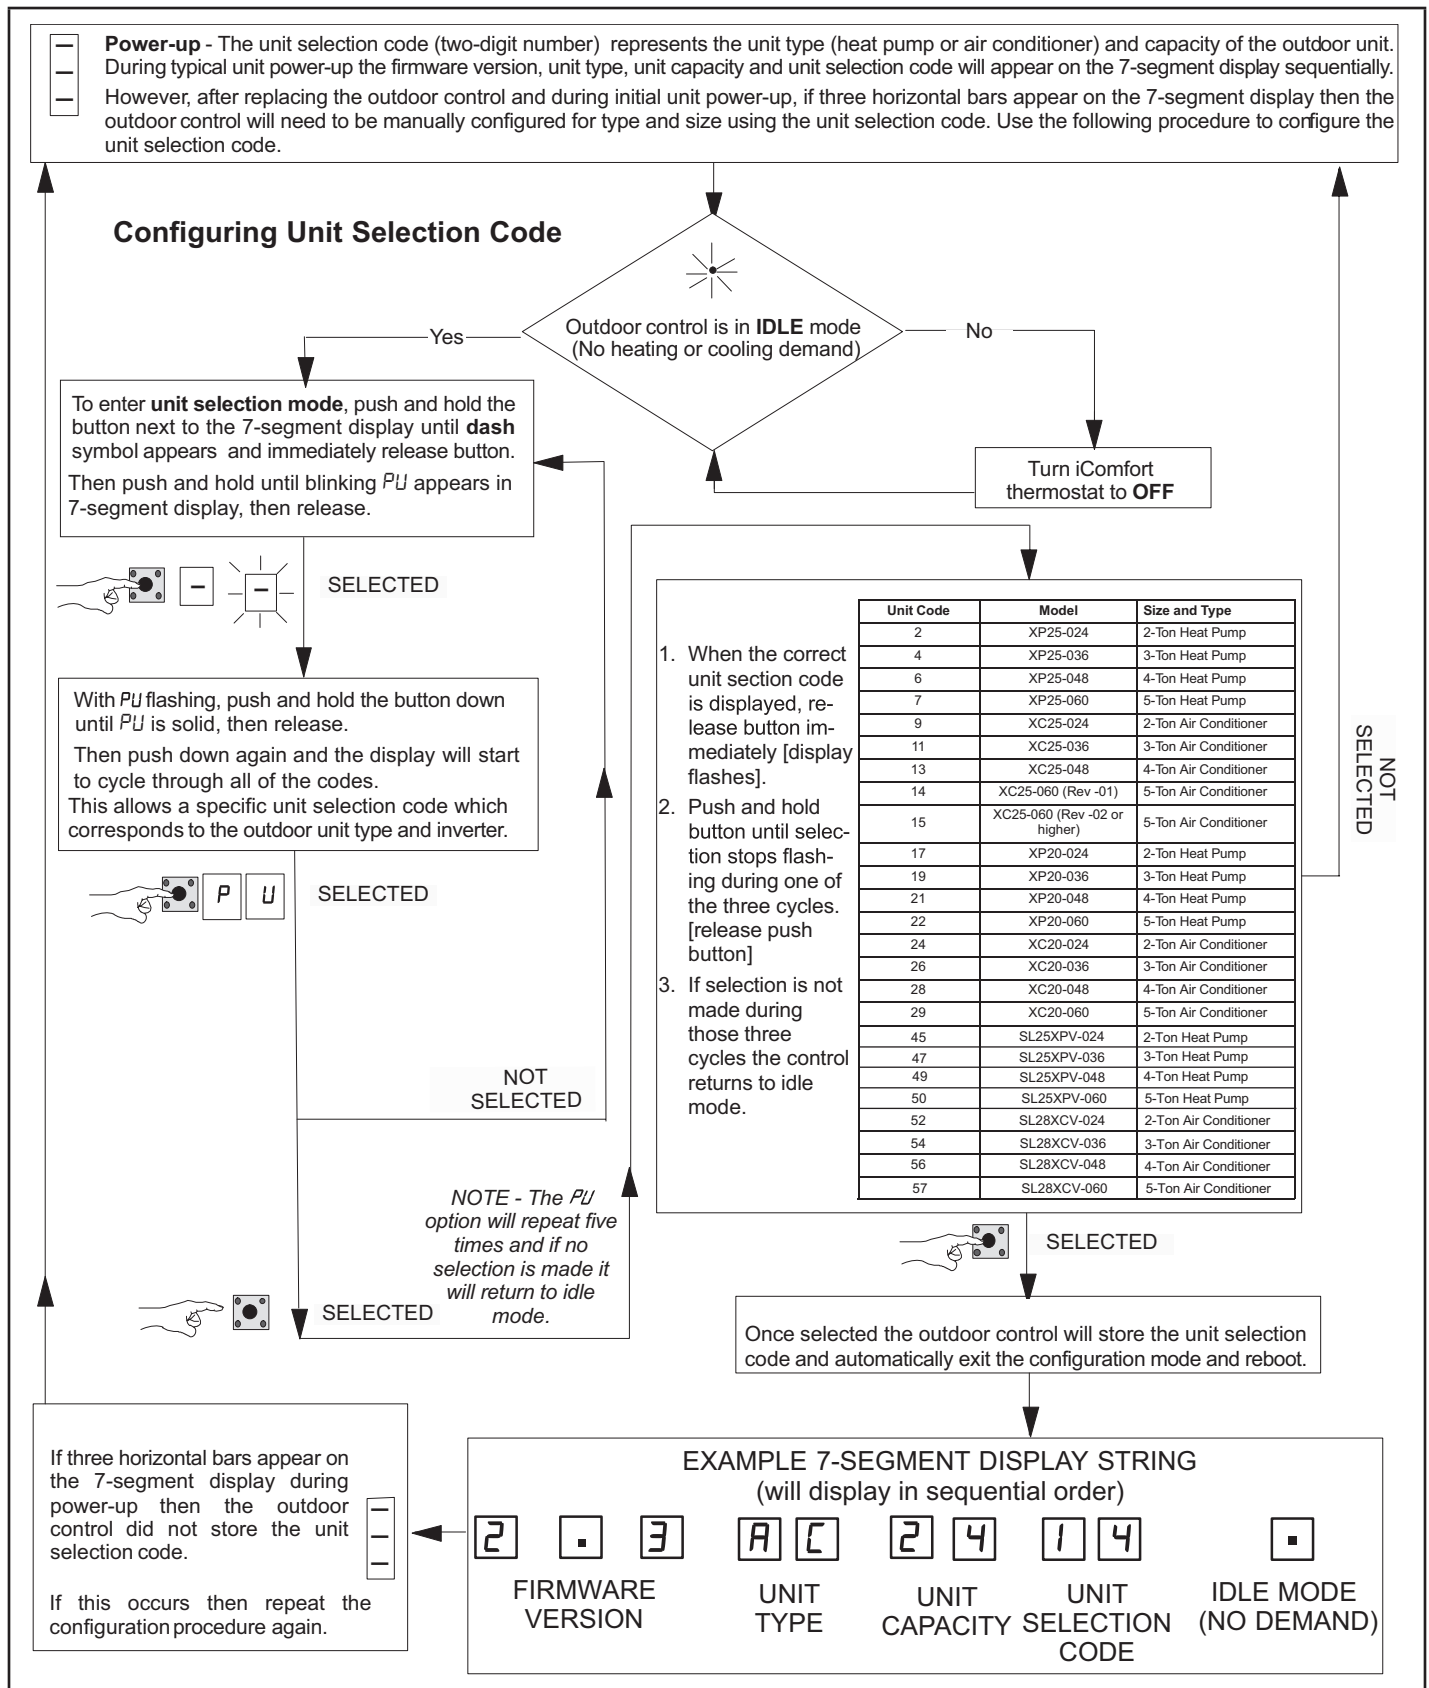

FIGURE 1. Configuring Unit Selection Code
- 4 - Use the procedure outlined in Figure 1 to configure the communicating outdoor control.